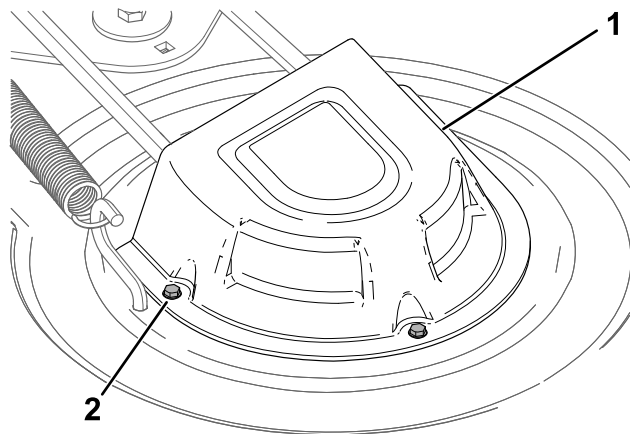

Figure 47
4. Loosen the screws and remove the pulley covers (Figure 47).